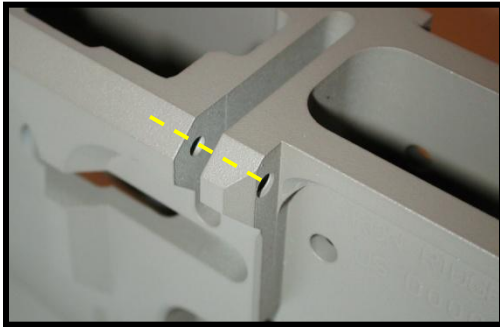

Figure 5
6. The Armalite™ compatible version requires you to replace the Roll Pin on the bolt catch with a 6/32" set screw (included with lower). (Figures 5 & 6)